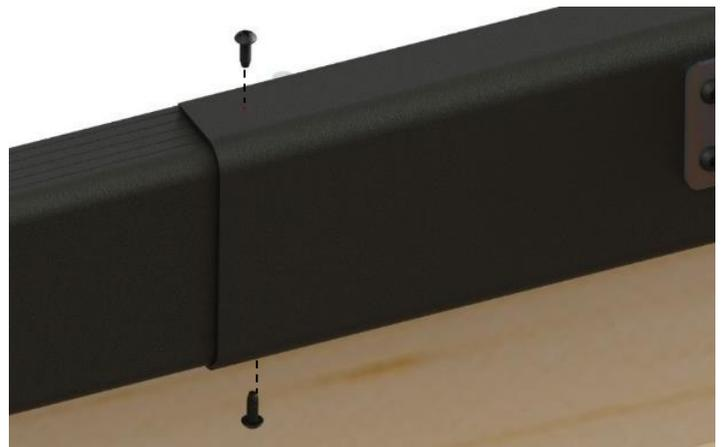

Figure 81
40) Screw in the painted Phillips 10-24 x 1/2" thread cutting screws at the bottom and top of the support bracket (four screws per bracket) (Figure 81).